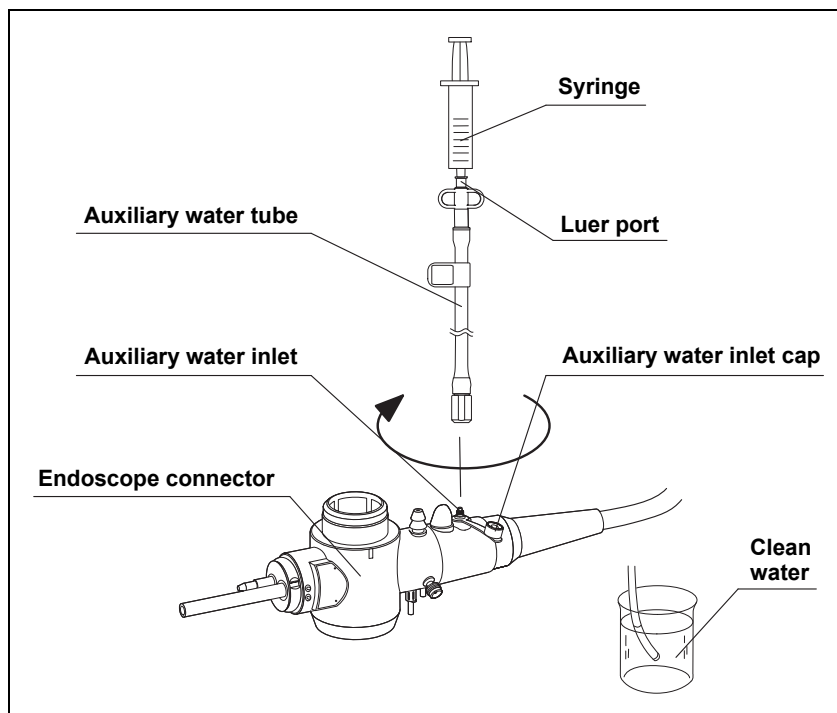

Figure 3.15
- If the auxiliary water tube is not connected to the auxiliary water inlet, uncap the auxiliary water inlet and connect the auxiliary water tube (see Figure 3.15).
Prior to reprocessing endoscopes equipped with auxiliary water feeding, attach the auxiliary water inlet cap to the auxiliary water inlet and open the cap (see Figure 3.15).